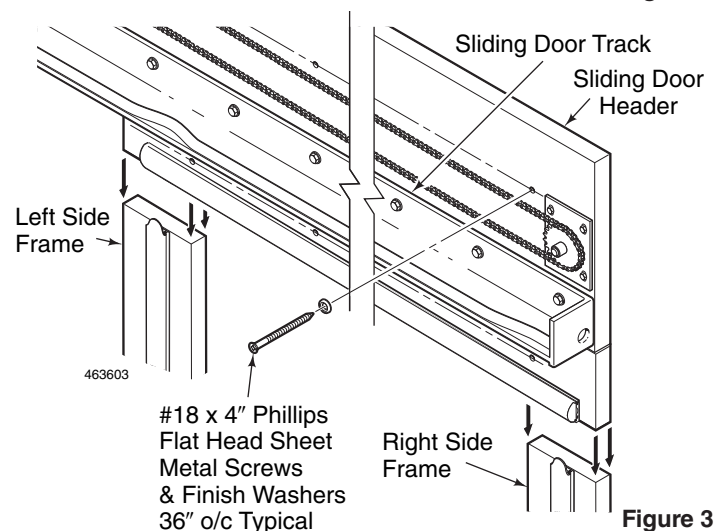

Figure 3
5. Mount the Sliding Door Track and Header assembly above the door frame. See Figure 3. For a single door, mount the end of the Track flush with the edge of the side frame. For a bi-parting door, the center stops on the Door Track should be centered above the door opening. In all cases, anchor the Door Header with the #18 x 4" Phillips flat head sheet metal screws and finish washers.